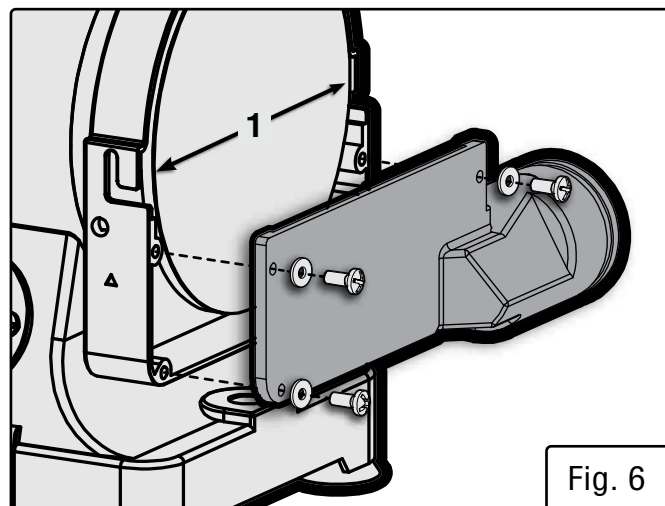

Fig. 6
1. Align the 3 holes on the sanding disc dust port with 3 holes located on the right side of the sander below the sanding disc. See Fig. 6.
1. Hold the disc table at an upwards angle of 45°. Align the inner extrusions on the disc table with the slots on either side of the sanding disc (Fig. 6 - 1). Slide inwards then upwards.